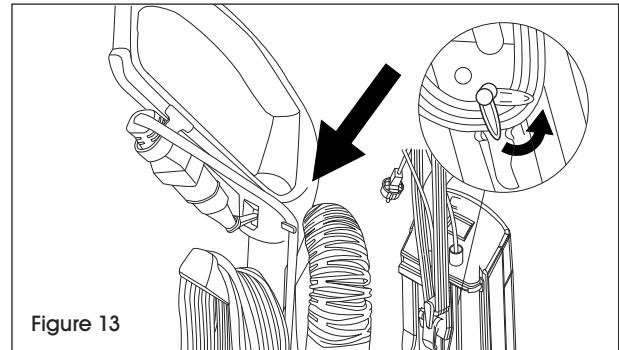

Figure 13
1. Wind the main power cable onto the winding aid. (See Figure 13)